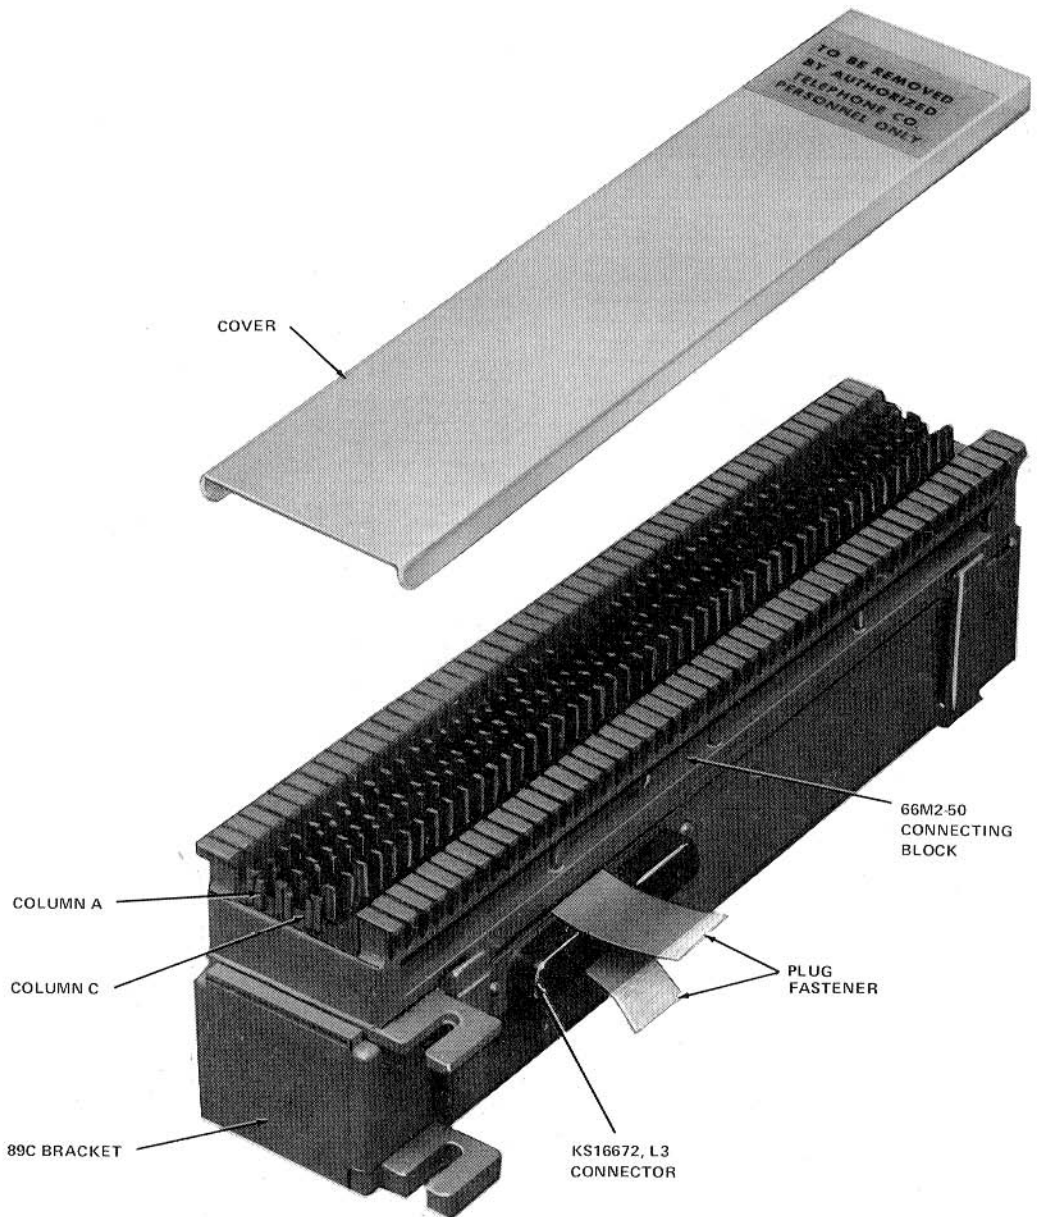

Fig. 1—66M3-50R or 66M4-50R Connecting Block With Cover
2.01 The 66M3-50R connecting block (Fig. 1) is intended to serve as a network interface unit as required for the Federal Communications Commission's (FCC) Registration Program for key telephone systems (except COM KEY\* 416), PBX systems, and other communications systems such as automatic call distributors, switching systems, etc.